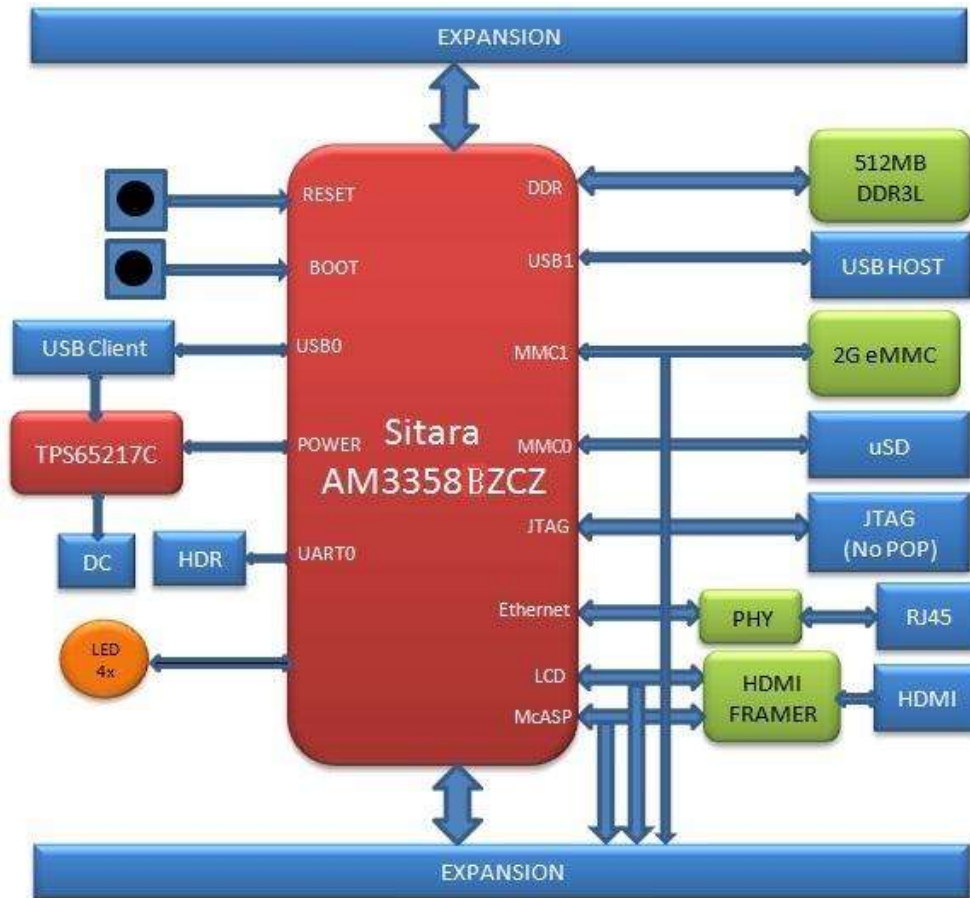
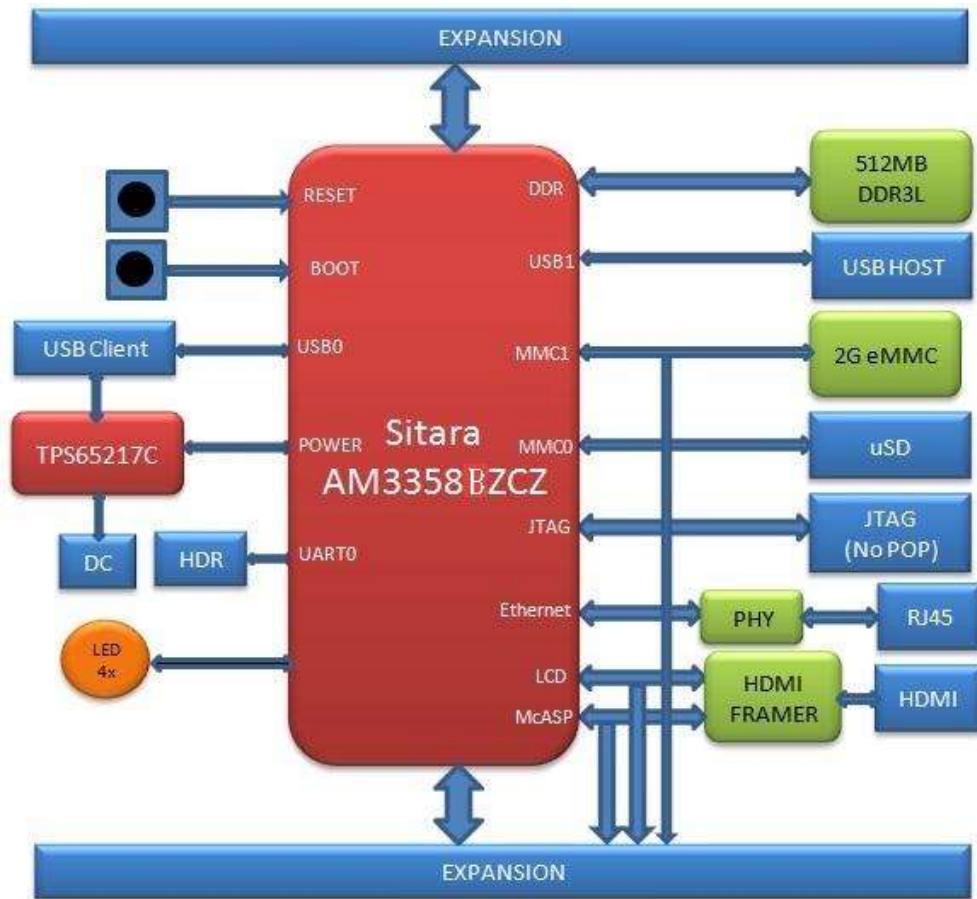

Figure 19. BeagleBone Black Key Components
Figure 20. BeagleBone Black Block Diagram
Figure 19 below is the high level block diagram of the BeagleBone Black.
**Figure 20** below is the high level block diagram of the board. For those who may be concerned, **Figure 20** is the same figure as **Figure 19** back on page 31. It is placed here again for convenience so it is closer to the topics to follow.